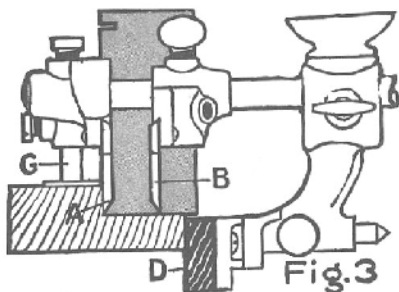

Fig. 3
Fig. 3—RABBET—Attach Fence (D), putting Arms through upper holes. The Fence regulates the width of the cut and if required, slides under the cutter. The Sliding Section (B) also slides under the rabbet. Gauge (G) regulates the depth of the cut.